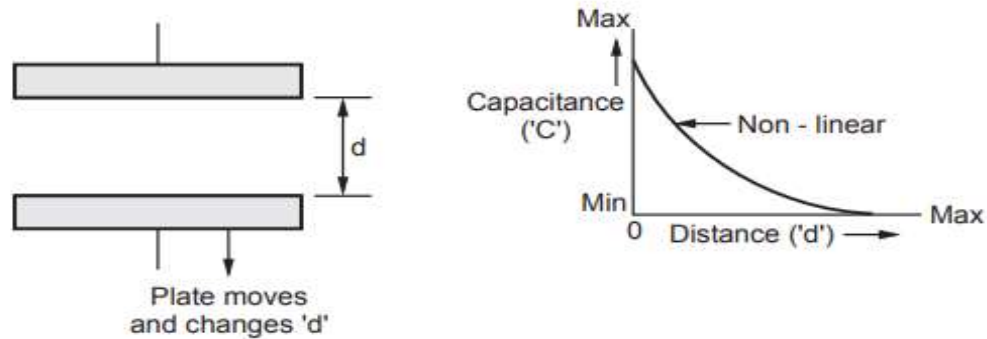

Fig. 1.12.1
- The capacitor may be characterized by q , the magnitude of charge on either conductors, and by V , the positive potential difference between the conductors (Fig. 1.12.1).
- The ratio of charge to voltage is constant for each capacitor, and is called the capacitance (C) of the capacitor.